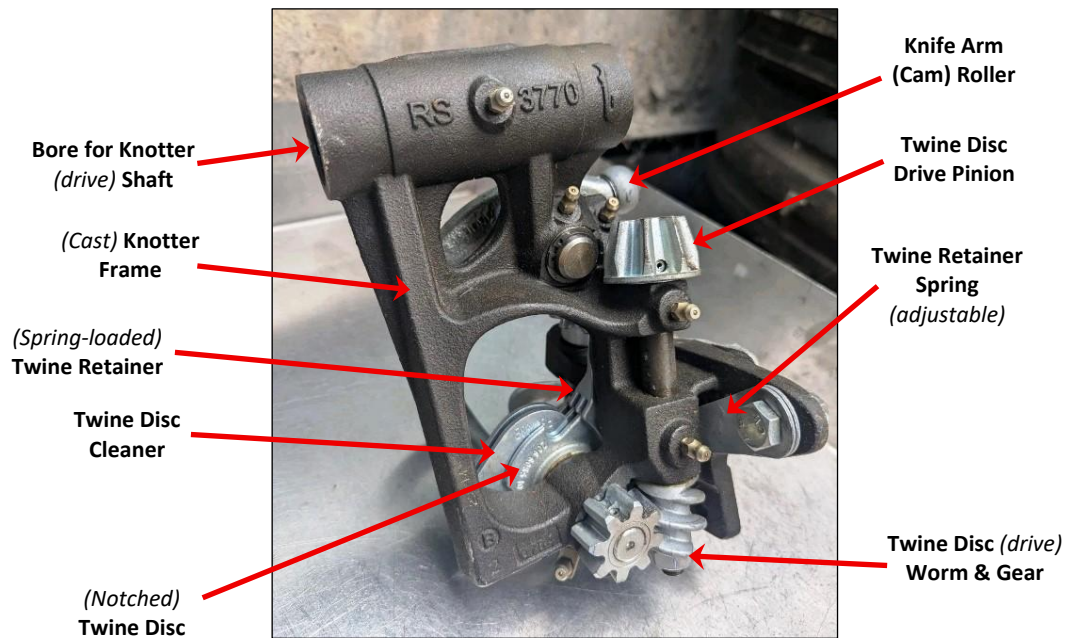
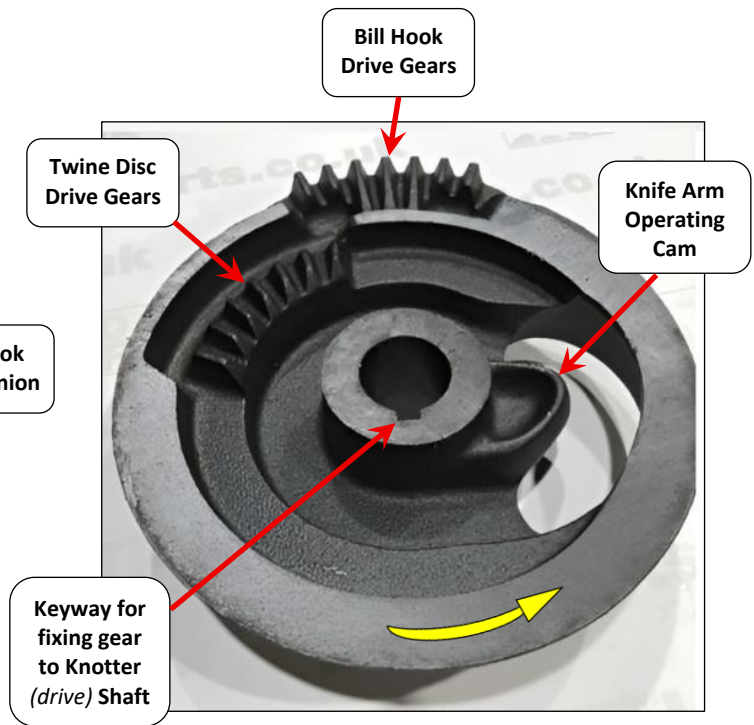

Fig.3.2 Deering-type knotter – Key components (*top view*)
Fig.3.5 Cam gear for Deering-type baler knotter
Figs 3.2, 3.3 & 3.4 show the key components of a contemporary Deering-type knotter unit, as fitted to a conventional (*small, square*) pick-up baler. However, this general design has changed very little since the early 20th Century. The components are attached to the (*cast*) Knotter Frame and are driven by the Knotter Cam Gear (*Fig.3.5*). Both are mounted on the Knotter Shaft.
- A (*Knotter*) Cam Gear is also fitted on the Knotter Shaft, immediately beside each Knotter Unit. The Cam gear is fixed to (*and is driven by*) the Knotter (*drive*) Shaft via a central keyway (Fig.3.5)
- The Knife Arm (*cam*) Roller also follows a cam profile on the Cam Gear (Fig.3.5) and this operates the Knife / Stripper Arm.